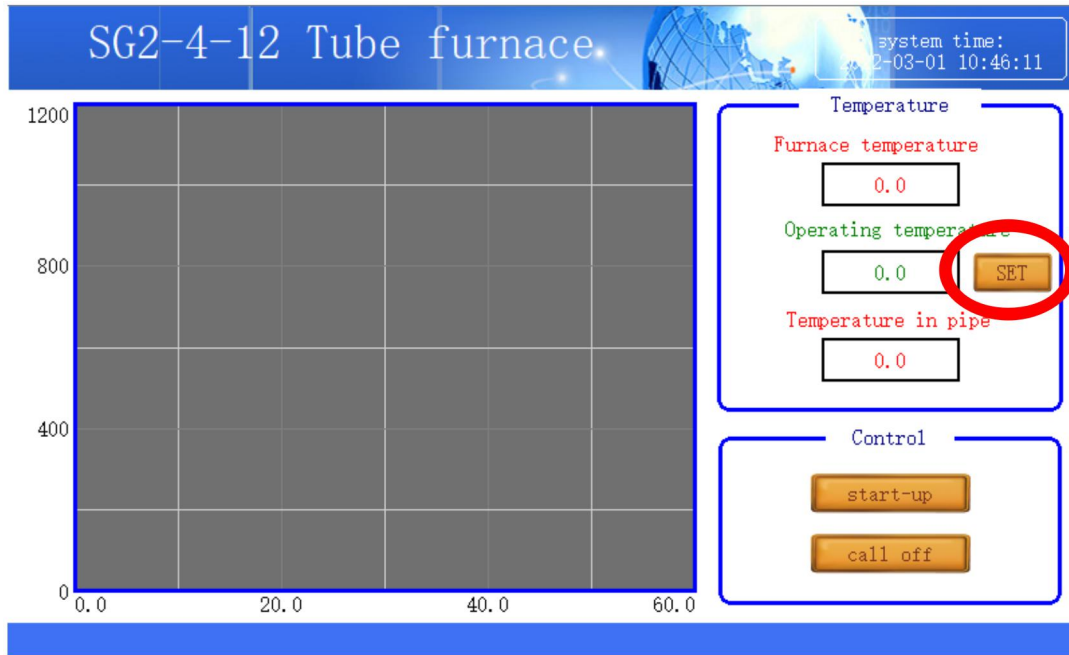

FIG. 1
- 1、Click "SET" button (red circle in FIG. 1) in the main interface to enter the setting of heating curve;